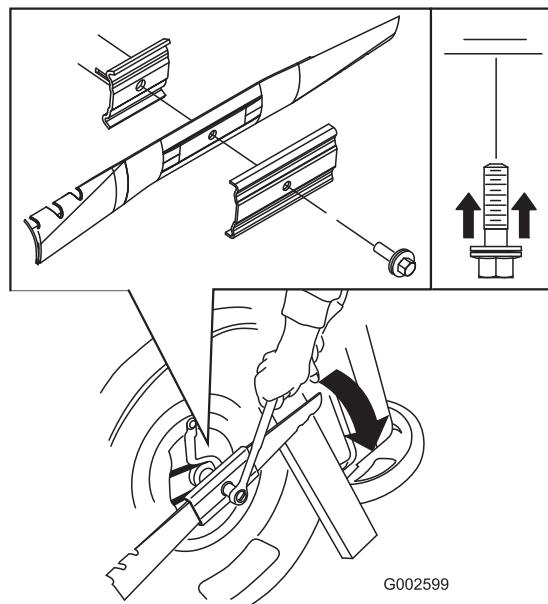

Figure 47
- Remove the blade, saving all mounting hardware (Figure 47).
- Install the new blade and all mounting hardware (Figure 47).
- Use a block of wood to hold the blade steady (Figure 47).